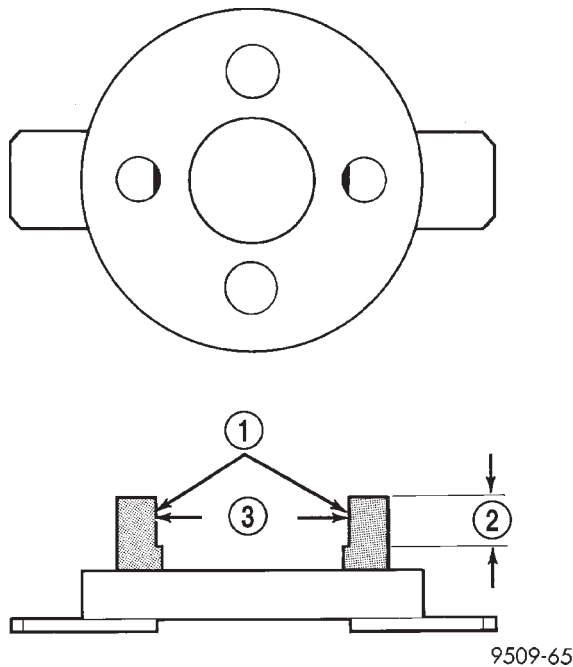

Fig. 79 Modification to Special Tool
(1) Remove crankshaft damper, front timing belt cover, timing belt and tensioner assembly. Refer to procedures in this section.
(2) Hold camshaft sprocket with Special Tools C-4687 and modified C-4687-1 as shown in (Fig. 79), while removing attaching bolt.
(3) Remove sprocket from camshaft.
(4) Remove rear timing belt cover.
(2) Install rear timing belt cover.
(3) Install camshaft sprocket retaining bolt. Hold camshaft sprocket with Special Tools C-4687 and modified C-4687-1 (Fig. 79) and tighten bolt to 115 N·m (85 ft. lbs.).
(4) Install timing belt tensioner, timing belt, front cover, and crankshaft damper. Refer to procedures in this section.